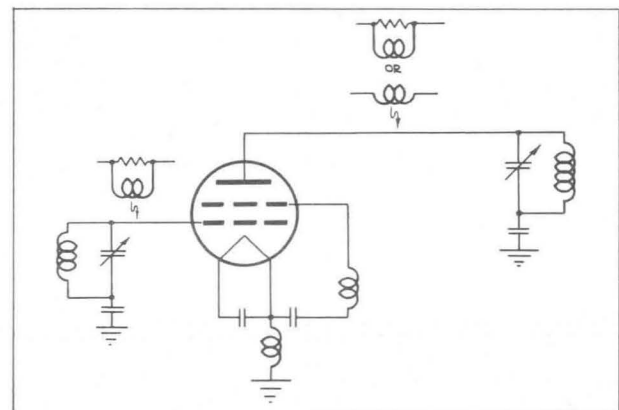

Fig. 24
1. By placing a small coil and resistor combination in the plate lead between the plate of the tube and the tank circuit. See Fig. 24. The resistor-coil combination is usually made up of a non-inductive resistor of about 50 to 100 ohms, shunted by 3 or 4 turns about  $\frac{1}{2}$ " in diameter and frequently wound right around the resistor. In some cases it may be necessary to use such a suppressor in both the plate and grid leads. The resistor coil combination operates on the principle that the resistor loads the VHF circuit but is shunted by the coil for the lower fundamental frequency.
2. By the use of small parasitic chokes in the plate lead. See Fig. 24. The size of this coil will vary considerably depending upon the tube and the circuit layout, and may run from about 4 to 10 turns of about a  $\frac{1}{2}$ " diameter. Apparently, the presence of this choke in the frequency determining part of the circuit lowers the frequency of a possible VHF parasitic so that it falls near the self neutralizing frequency of the tube and bypass leads. (See D-2-b "Analysis of Neutralizing Circuits.") In addition to varying the size of the suppressor choke, the amount of inductance common to the screen and filament in the filament grounding strap may be a factor. This can be varied simultaneously with the suppressor choke.